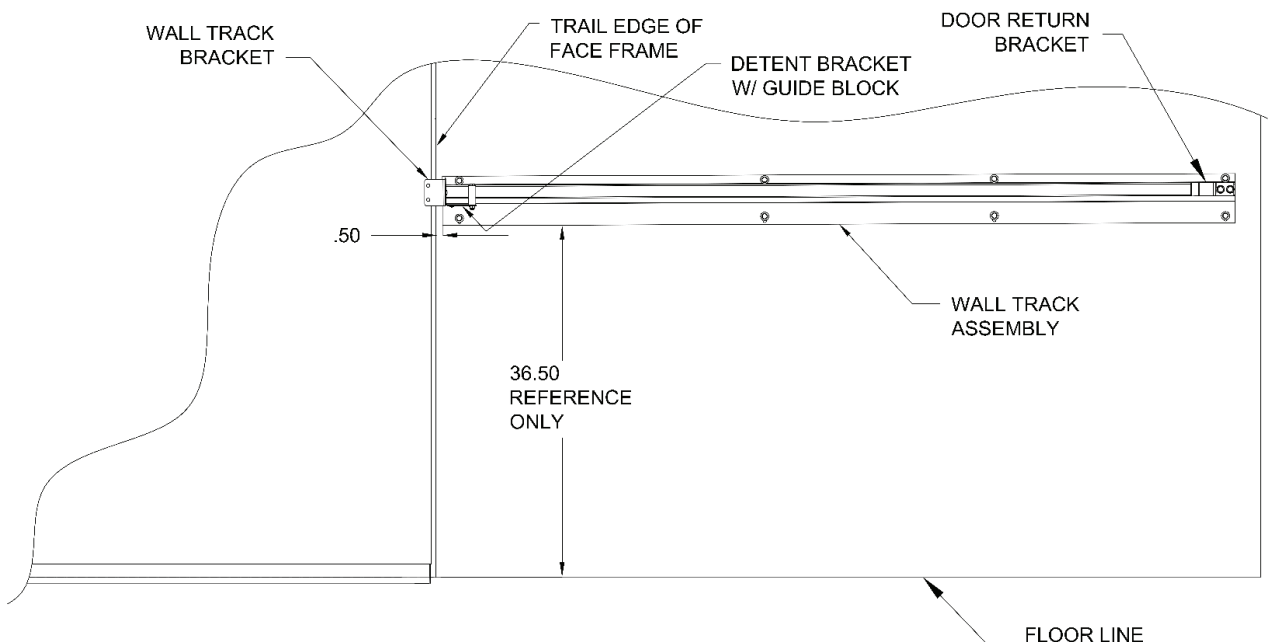

Figure 37: Wall Track Installation
- 2 With doors in closed position, use following steps to mount wall track assemblies (Figure 37). Steps detail mounting RH wall track assembly. For bi-part doors, there are mirrored assemblies on both sides of opening. Mounting procedure is the same for both sides.
- 7 Open & close door several times, checking that door moves freely, and that guide block rides in slot. Adjust height of detent bracket, and vertical position of wall track assembly as needed (Figure 37 & 39). Tighten all fasteners.